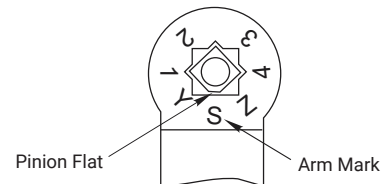

Figure 1
- Install main arm on top of pinion shaft. Align the **pinion flat** with the letter “S”. (See Figure 1) Fasten with arm screw.